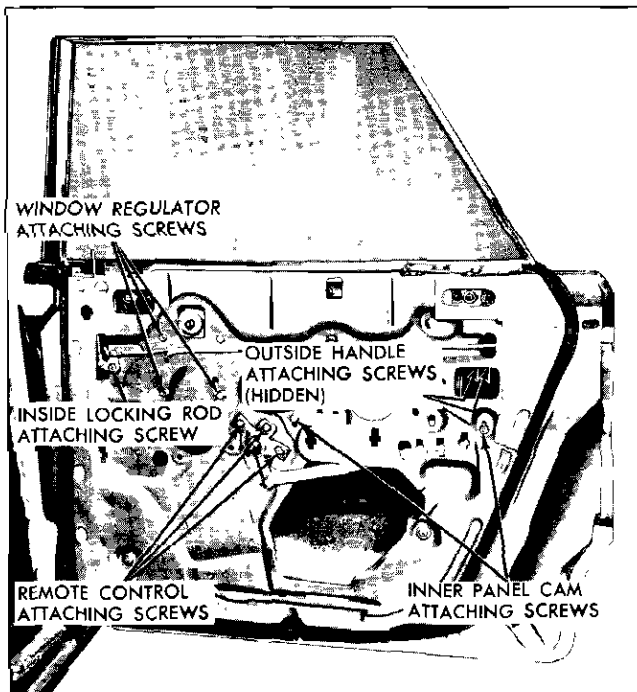

Fig. 2-33 Rear Door—39 Styles
1. Raise door window. Remove door trim assembly and detach inner panel water deflector sufficiently to gain access to door outside handle attaching screws (Fig. 2-33).
5. Disengage rod from spring clip on door inner panel. Then remove inside locking rod assembly attaching screw, spring washer and washer cup and remove assembly from door (Fig. 2-33).
2. Remove remote control attaching screws and remove remote control from connecting rod (Fig. 2-33).
1. Raise door window. Remove door trim assembly and detach inner panel water deflector sufficiently to expose inner panel cam attaching screws (Fig. 2-33).
1. To correct a condition where the window glass is cocked in glass run channels, loosen door inner panel cam attaching screws, adjust cam as required, and tighten screws (Fig. 2-33).